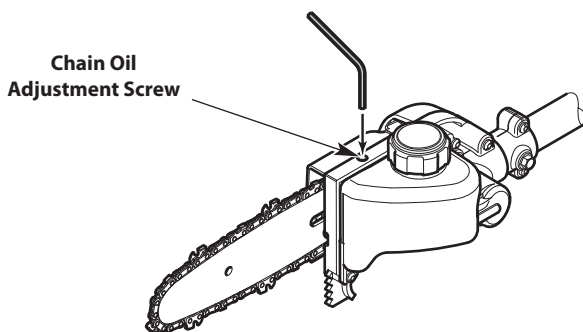

Fig. 18
1. Insert a 3/32-inch Allen wrench into the chain oil adjustment screw (Fig. 18).